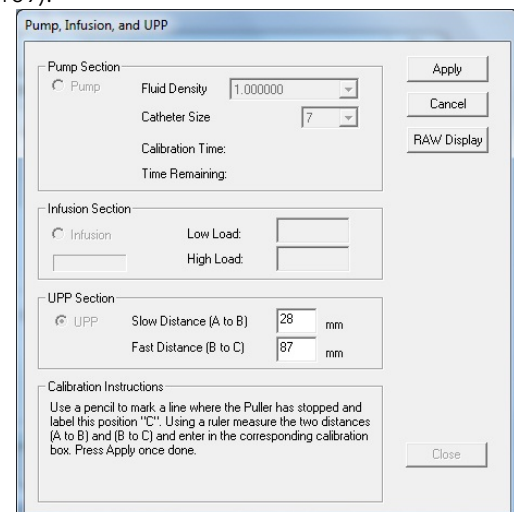

Figure 115: Pump, Infusion, and UPP Calibration Window – UPP Section
7. Click **UPP** under the *UPP Section* option (Figure 115).